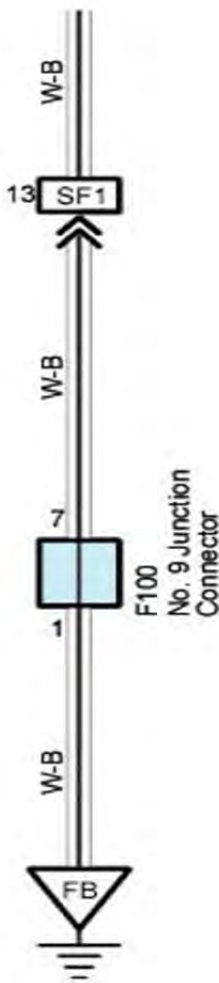

Figure 17a
17. Locate vehicle connector SF1 in the Front LH pillar. Disconnect connector and pull the factory tape back. T-Tap the mirror main power harness ground wire (black/orange) to Pin 13 white/black wire in white connector SF1. Figure 17a & 17b.